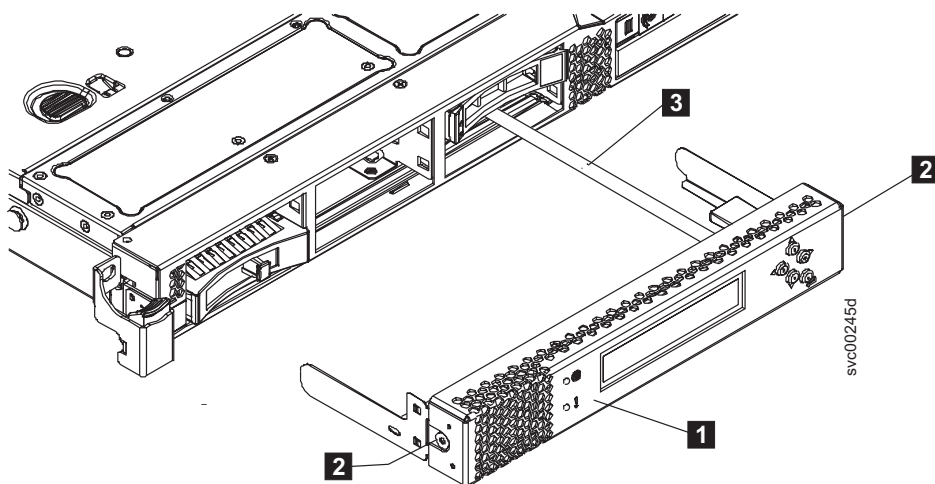

Figure 77. Service controller for the SAN Volume Controller 2145-CF8 with attached USB cable
7. Gently press both release buttons, shown by **2** in Figure 77, and release the catch while pulling gently forward on the service controller.